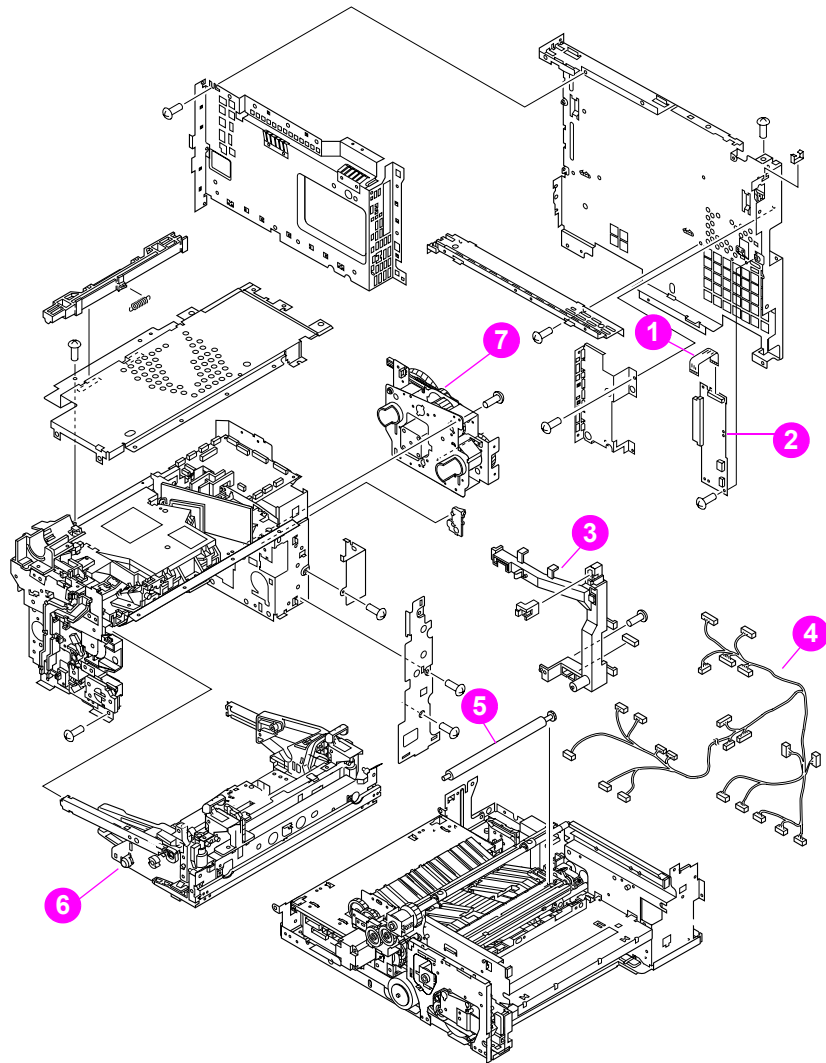

Figure 8-7 Internal components (2 of 3)
Early CLJ4500 printers (serial numbers xxGxxxxxxx and below) have two versions of the drum drawer cover and the upper (drum) drawer assembly (Figure 8-7, item 6 and Figure 8-13, item 1). If the drum drawer cover requires replacement, first determine whether you have the original version of the drum drawer by locating a bar code label with a part number of RG5-3315 on the inside of the drum drawer cover, just to the right of the fan cover. If you have the original version of the drum drawer, order kit part number **RG5-5230-000CN** to obtain the newer version of the drum drawer assembly, drum drawer cover, plus additional hardware required to complete the update. If the newer version of the drum drawer is already installed, simply order the replacement drum drawer cover (RG5-5232-000CN).